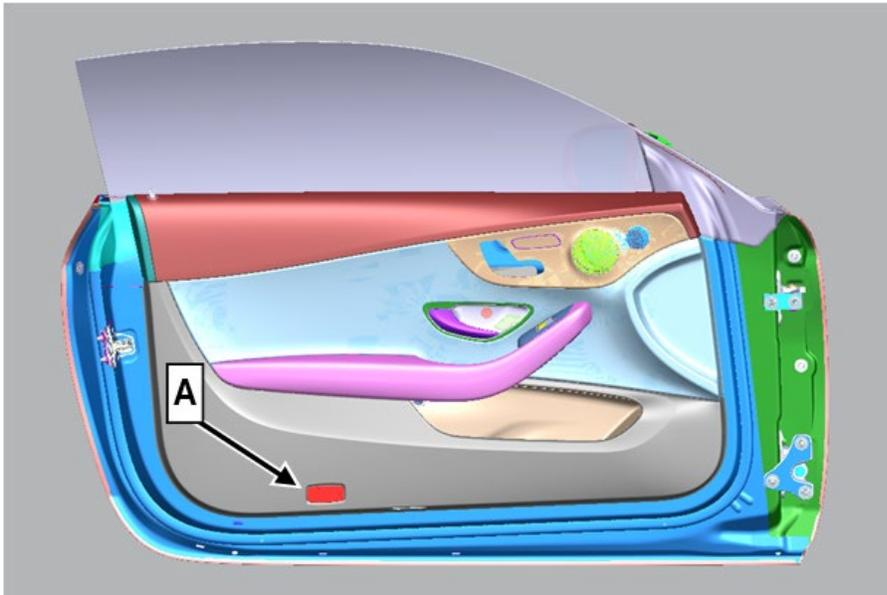

Figure 1
1. Open left front door and remove exit lamp (A), (Figure 1), with a plastic wedge.